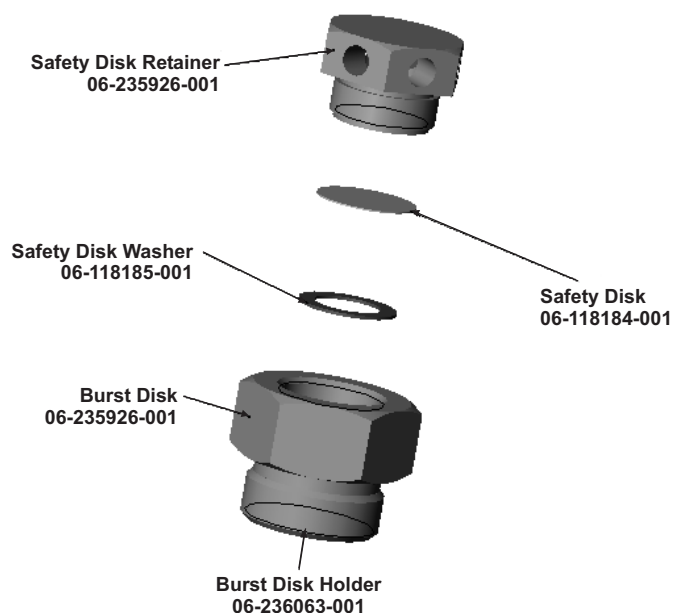

Figure 6-5. Burst Disc
1. Remove the safety disc retainer (see Figure 6-5) including safety disc and safety disc washer from the cylinder body. Discard the safety disc and washer.